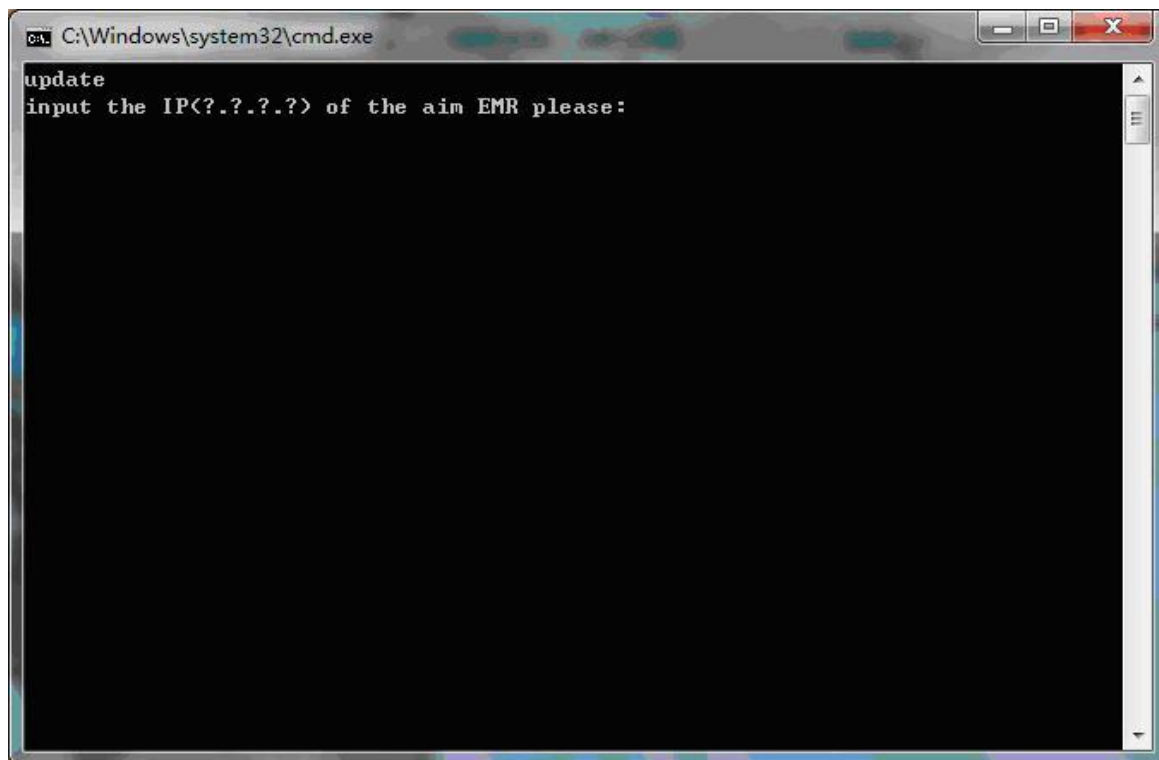

Fig. 9-3 Online Upgrade Tool
**Step 3:** Use the online upgrade tool, as show in Fig. 9-3 Online Upgrade Tool, enter the device IP for upgrade.